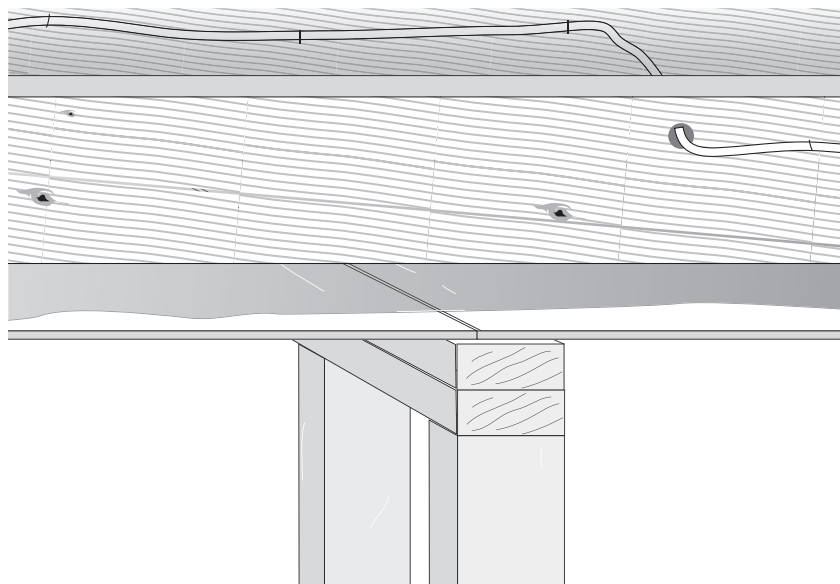

Figure 7.16: Applying polyethelene vapor barrier and drywall on the ceiling before putting up interior walls.
- Applying polyethylene and drywall across an entire clear span ceiling before erecting interior partitions (Figure 7.16).